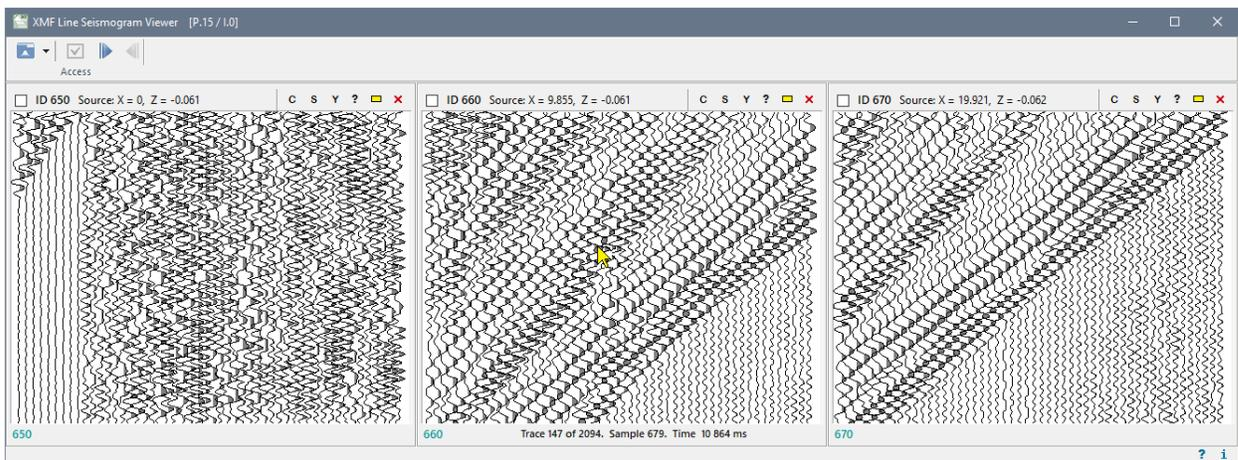

Fig. 1. Line Seismogram Viewer.
The main window of Line Seismogram Viewer (LSV) may look like on fig. 1.
In a regular LSV mode, only the first section of the module's tool bar is visible. It is called the *access bar* and contains four buttons (fig. 1). The first button, when clicked on its icon, drops down the access menu with commands of opening seismograms. The first four menu commands are discussed in this section.
**1. Open seismogram.** The command displays a dialog with a list of seismogram IDs (fig. 1). After the user selects a seismogram, LSV adds (or, to secure the order, inserts) a new frame with the initial seismogram view in it. If there is no place for a new frame, the command is disabled. To open a new file, one of the existing frames must be closed. It is only this command that appends *the recent file list*. It is dropped down, if the user clicks on the small arrow of the first button.